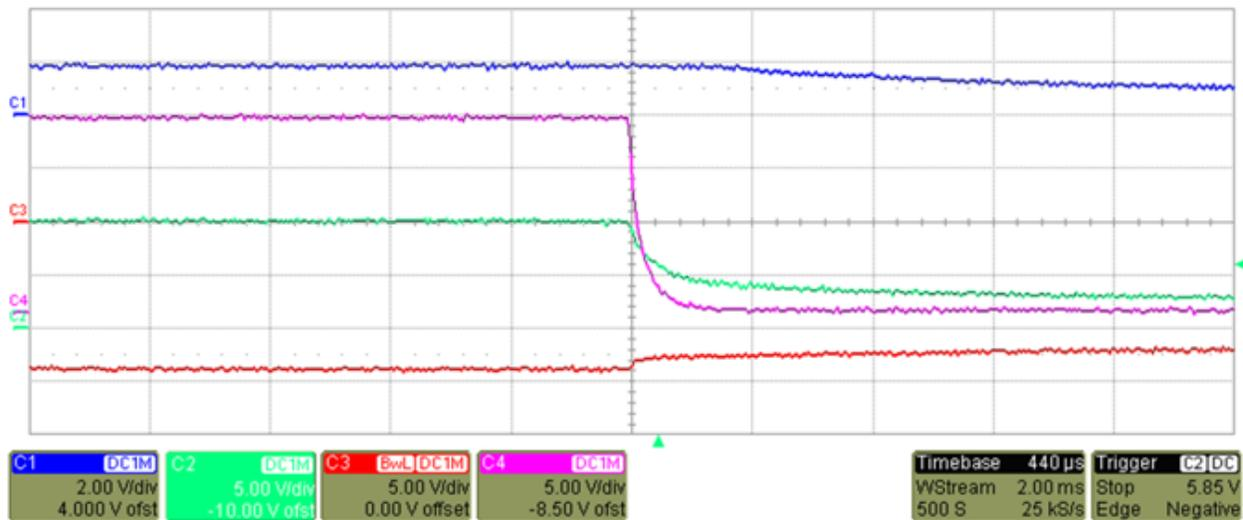

图 16. DMD Shutdown Power Sequencing
- 图 16 shows the power supply power down.